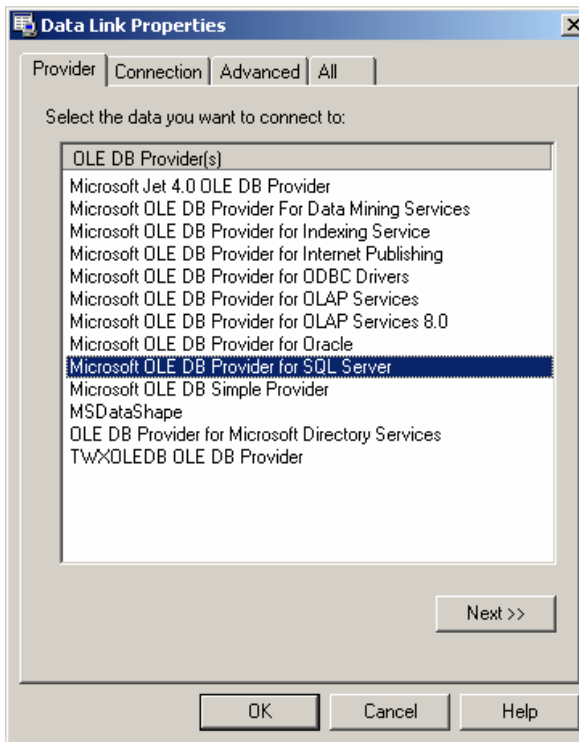

Figure D.2. Data Link Properties Dialog Box: Provider Tab
5. Double click on the .udl file in Windows Explorer to display the **Data Link Properties** dialog box. On the **Provider** tab, shown in **Figure D.2**, select **Microsoft OLE DB Provider for SQL Server**.